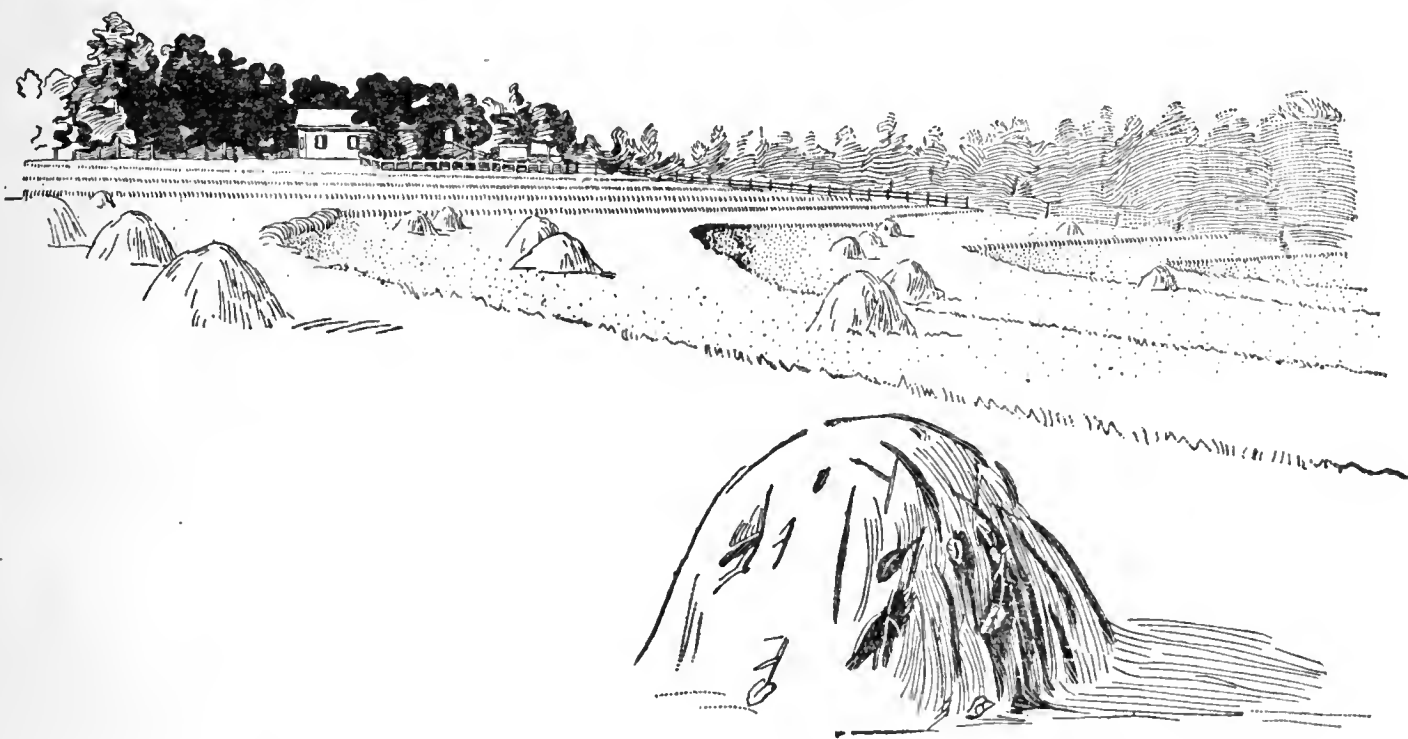

FIG. 1.—A field showing the combined hillside ditch and terrace.
As the cotton States become more densely populated and land values and wealth increase, the ultimate solution of water control on hill lands may be some system of tiling. At present the cost would be prohibitive, and therefore some method of hillside ditching or terracing must be used. Many of the best farmers in the South have found by actual experience that a combination of the hillside ditch and the terrace (fig. 1) will more nearly fill the needs of their lands than anything else yet tried. There are several methods of terracing and hillside ditching, each of which has some merits and some faults. However, the only two methods that will be discussed here are: (1) The broad-row terrace and (2) the Mangum terrace. Both of these terraces have "made good." They are built on the same principle, but are used in different cropping systems.